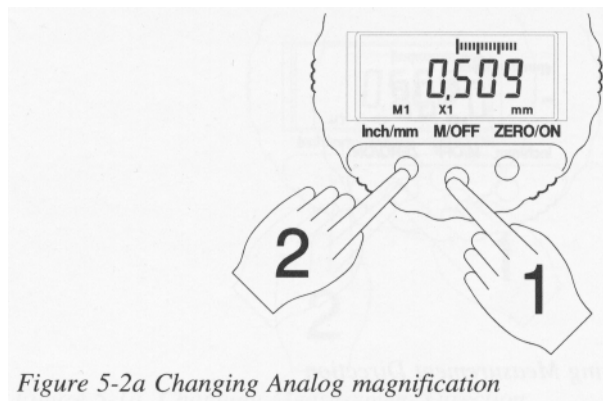

Figure 5-2a Changing Analog magnification
- 1) Press and hold M/OFF(1) - then press and release inch/mm(2) until the M1 icon is displayed. (Fig. 5-2a)